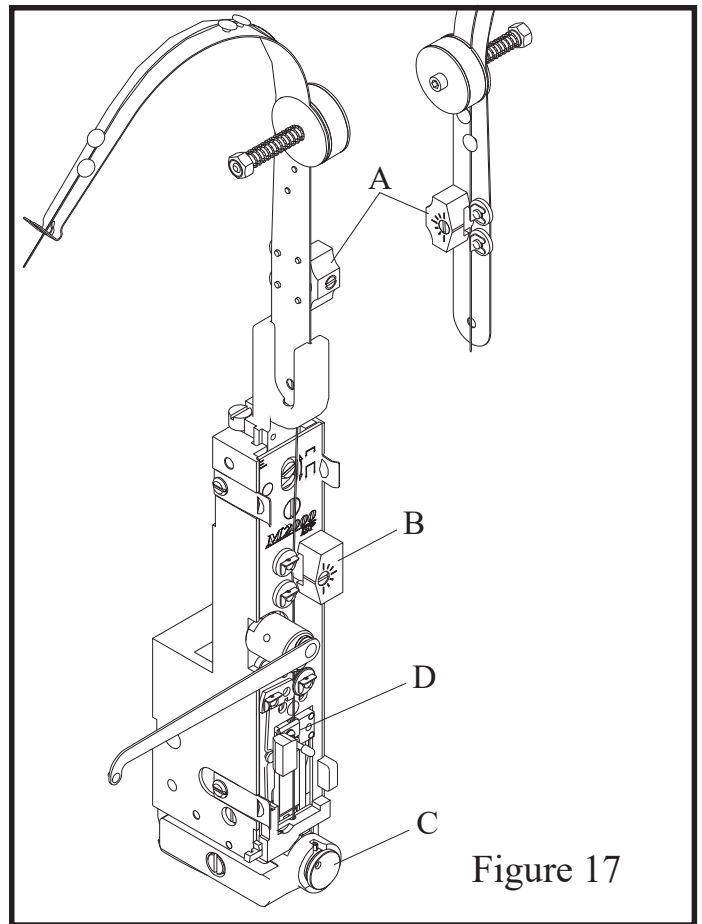

Figure 17
M. Wire Straighteners: (Figure 17)
the wire points straight down as in fig. 17. Improper straightening of the wire can also cause the stitch legs to buckle or turn out because they strike the clincher improperly. Excessive tension on the wire straightener prevents the grip (Index D) from feeding the wire smoothly. This causes variation in leg length.